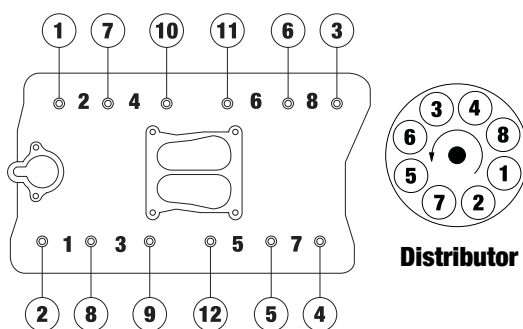

Figure 1 - 307-403 c.i.d. Torque Sequence (Torque Bolts to 25 ft/lbs.)
5. Install the intake manifold hold-down bolts. Torque all manifold bolts in two steps by the sequence shown to 25 ft/lbs. **(See Fig. 1).**